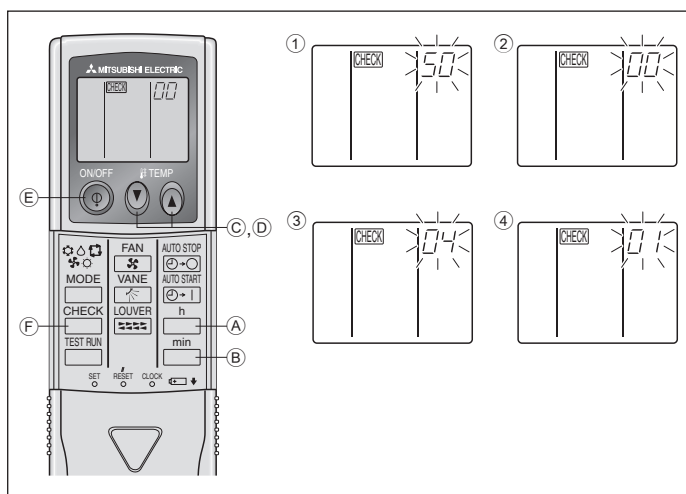

Fig. 6-9
- ⑧ Press the MODE button (E) and mode and the setting number (I) and (II) will change to being on constantly and the contents of the setting can be confirmed.
- ⑨ Press the FILTER (A) and TEST RUN (B) buttons simultaneously for at least two seconds. The function selection screen will disappear momentarily and the air conditioner OFF display will appear.
2) For wireless remote controller (Fig. 6-9)